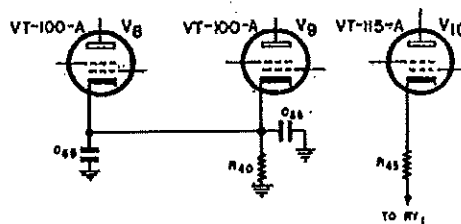

Fig. 21
- (2) See Fig. 21 for change in BC-669-B, and BC-669-C.
(c) In BC-669-B, and BC-669-C an additional capacitor C_{58} is connected from V_8 cathode to ground as a bypass. Cathode bias resistor R_{40} is disconnected from R_{45} and grounded directly. (See Fig. 21.)